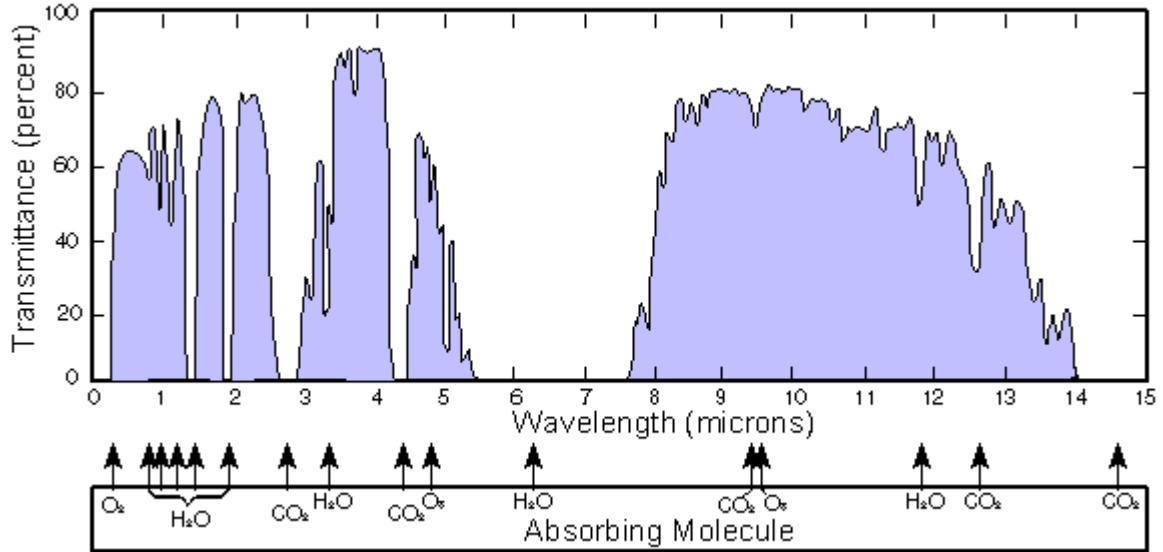

Figure P10.4-1: Spectral transmittance of the atmosphere (figure from <http://en.wikipedia.org/>)
10.4-1 Radiation that passes through the atmosphere surrounding our planet is absorbed to an extent that depends on its wavelength due to the presence of gases such as water vapor, oxygen, carbon dioxide and methane. However, there is a relatively large range of wavelengths between 8 and 13 microns (see Figure P10.4-1) for which there is relatively little absorption in the atmosphere and thus, the transmittance of atmosphere is high. This wavelength band is called the atmospheric window. Infrared detectors on satellites measure the relative amount of infrared radiation emitted from the ground in this wavelength band in order provide an indication of the ground temperature.
The transmittance as a function of wavelength data is provided on the text website ([www.cambridge.org/nellisandklein](http://www.cambridge.org/nellisandklein)) in files atmosphericWindow.csv (EXCEL comma-separated value format) and atmosphericWindow.lkt (EES Lookup table format). A plot of the data in this file is shown in Figure P10.4-1. Using these transmittance data determine and plot the amount of energy received by a satellite detector between wavelengths 8 to 13 microns as a function of ground for temperatures between -10°C to 30°C.
10.4-7 A solar collector is used to absorb energy from the sun. The solar collector losses are based in part on how much energy it emits to its surroundings. Figures P10.4-1 illustrates the variation of emissivity with wavelength for semi-gray surfaces that are referred to as surfaces A, B, and C.